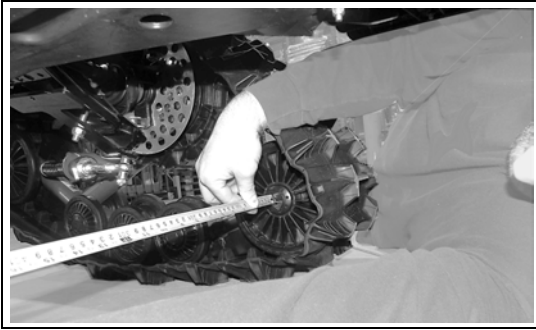

Figure 22
**Measure B:** Measure the distance between the rear inside  $\text{\O}202$  mm wheels of the front Track Systems. See Figures 22, 23 and 24.